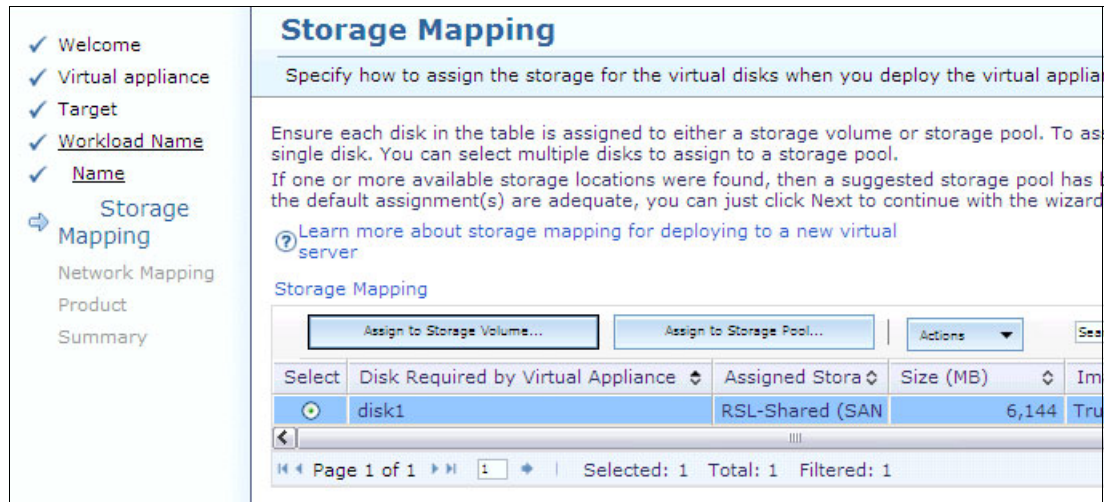

Figure 9-130 Assigning a disk
- Assign a disk from a storage pool or from a storage volume, as shown in Figure 9-130. Select **Assign to Storage Pool**, then click **Next**.
Tip: By default, the storage volume (disk1) is selected, as shown in Figure 9-130.